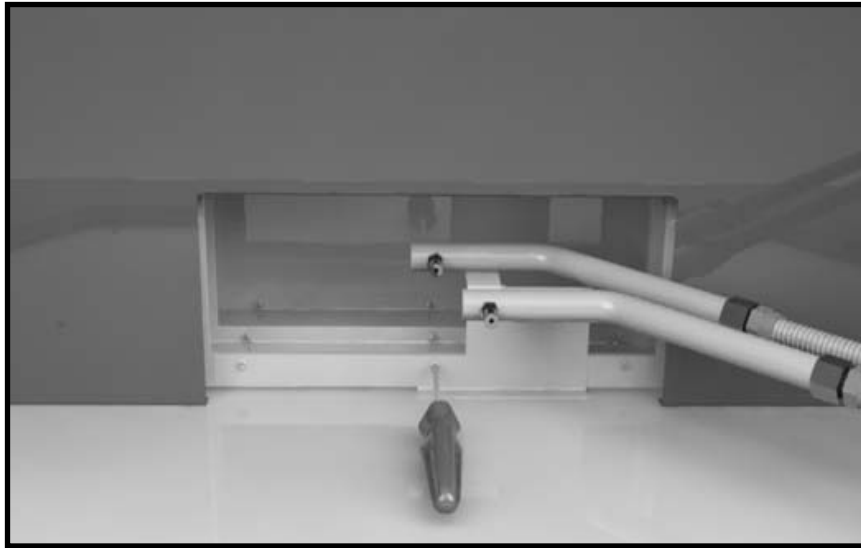

Figure 2: TC54 Black Diamond burner kit contents.
1. Remove one screw from the center rear of the firebox and use it to attach the manifold assembly. (Figure 2)